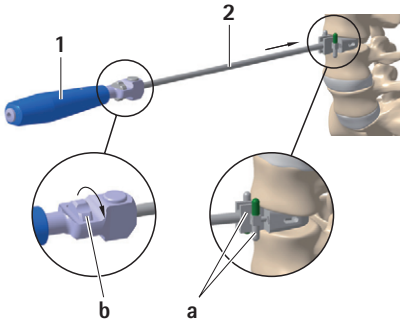

Fig. 1
- ▶ Mount chisel guide **2** with the desired implant height and angle onto the handle **1**, see Fig. 1.
- ▶ Turn wheel **b** clockwise and adjust safety stop **a** to the shortest chisel length, see Fig. 1.
- ▶ Insert chisel guide **2** centrally into the disk space and adjust safety stop **a** to the desired chisel depth while monitoring radiographically, see Fig. 1.